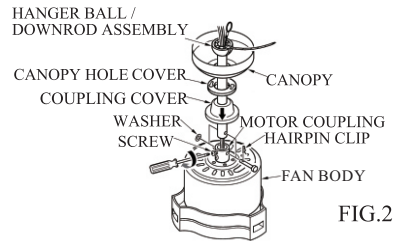

FIG.2
2. Insert the down rod through the center opening in the canopy, coupling cover and route the motor leads through the hanger ball/downrod assembly. Align the clevis pin holes in the downrod with the holes in the motor coupling. The clevis pin must pass through the holes in the motor coupling and the downrod. Place the washer onto the clevis pin and install the hairpin clip making sure to push straight leg of the hairpin clip through the hole near hanger ball to make sure the clevis pin is properly installed (see Fig.2)